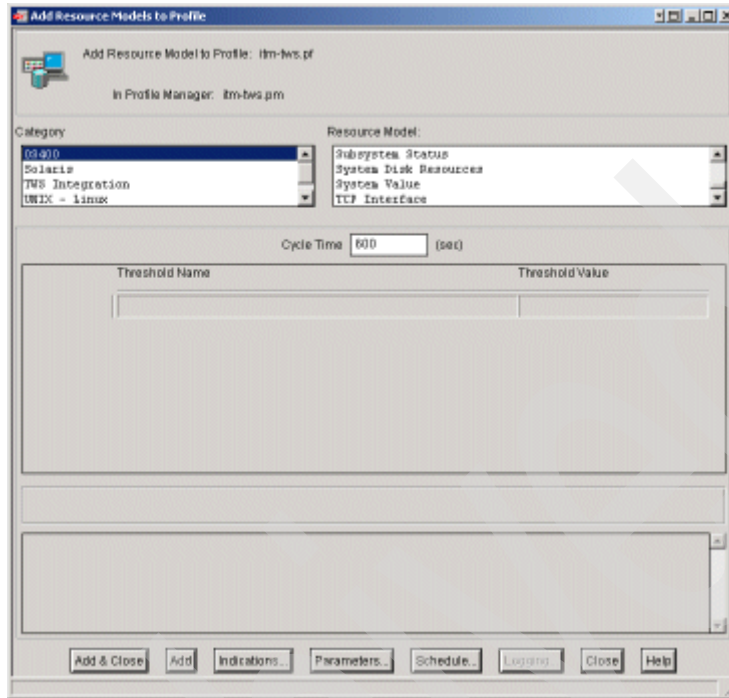

Figure 9-101 Add Resource Models to Profile window
2. Select **Add**. The Add Resource Models to Profile window opens as shown in Figure 9-101 on page 508.